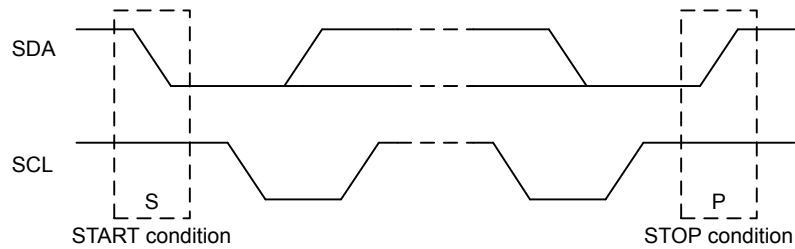

Figure 22.4. I²C START and STOP Conditions
START and STOP conditions are used to initiate and stop transactions on the I²C-bus. All transactions on the bus begin with a START condition (S) and end with a STOP condition (P). As shown in Figure 22.4 I²C START and STOP Conditions on page 701, a START condition is generated by pulling the SDA line low while SCL is high, and a STOP condition is generated by pulling the SDA line high while SCL is high.